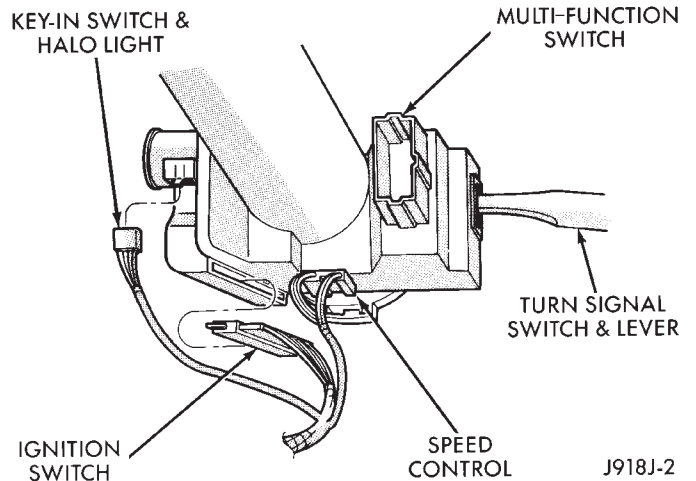
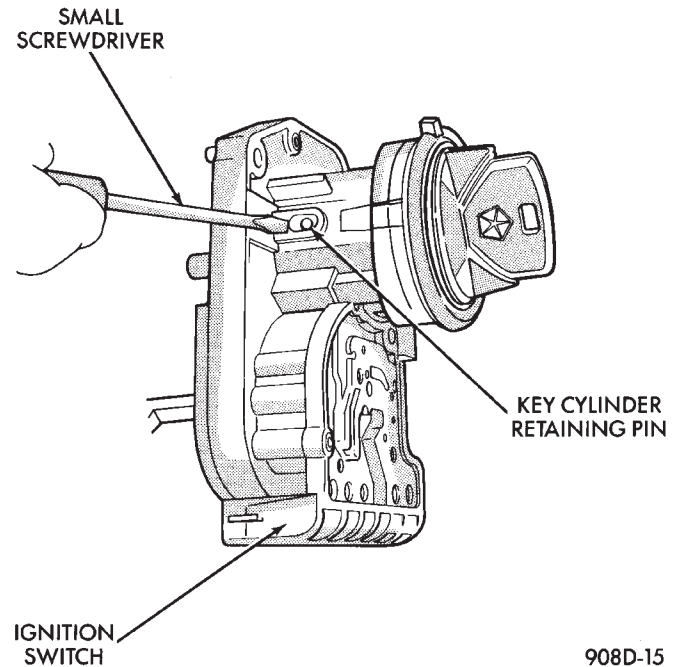

Fig. 2 Key in Switch and Halo Lamp Connector
Fig. 3 Key Cylinder Retaining Pin
- (5) Gently pull switch away from the column. Release two connector locks on the 7-terminal wiring connector. Remove the connector from the ignition switch.
- (6) Release connector lock on the Key-In-Switch and Halo Light 4-terminal connector. Remove the connector from the ignition switch (Fig. 2).
- (7) Remove the key cylinder from the ignition switch as follows:
- (a) With the key inserted and the ignition switch in the lock position, proceed as follows: Use a small screwdriver to depress the key cylinder retaining pin flush with the key cylinder surface (Fig. 3).